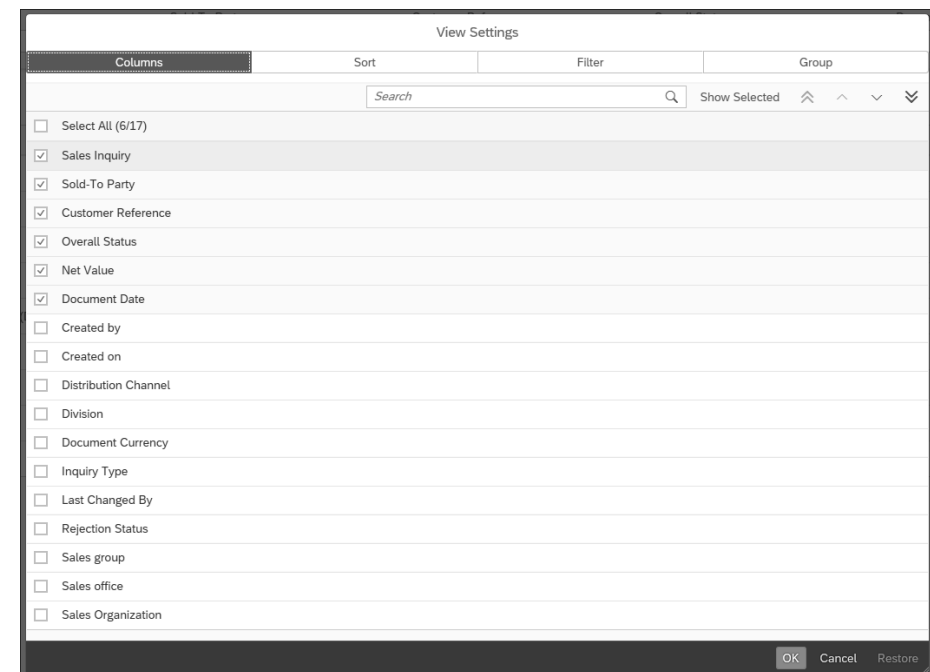

Figure 4.60 Manage Sales Inquiries: Layout Settings Menu
- After you click the **Settings** icon, the **View Settings** dialog appears, as shown in Figure 4.60. This is where you can select and rearrange desired columns, just as in Transaction VA15.